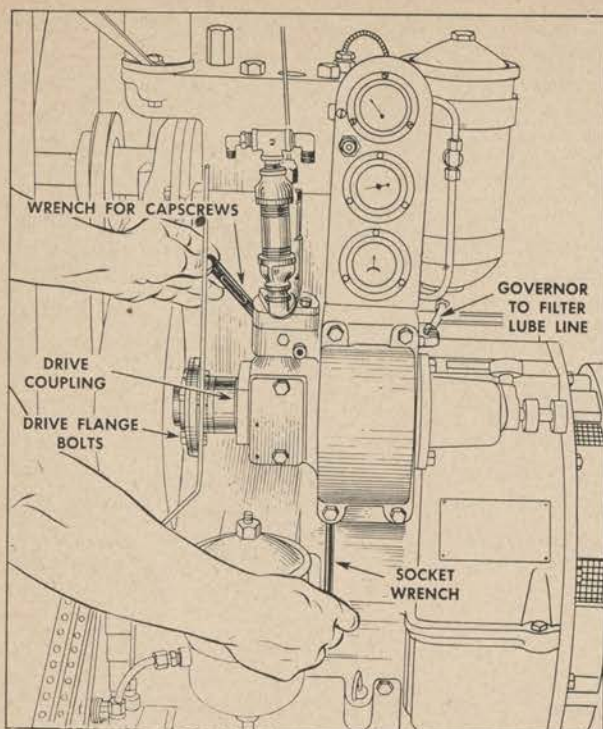

Figure 273. Removing fuel pump and governor assembly.
(e) *Removal of fuel pump and governor assembly.* To remove the fuel pump and governor assembly from the engine, first disconnect the suction and bleeder fuel lines from the tee fitting. (See fig. 273.) Then disconnect the suction line from the filter and the lubricating line from the governor to the lubricating oil filter. At the upper end of the governor housing, behind the instrument panel, take out the three capscrews holding the assembly to the cylinder block. Remove the three socket-head screws at the lower end of the governor housing. (See fig. 273.)
2. To adjust the timing, loosen slightly the three bolts in the driving flange between the flexible coupling and the gear housing (fig. 273), observing the setting present. Move the fuel pump either "advance" or "retard," a distance of one mark on the periphery of the flange. Tighten the three bolts and start the engine. Apply, first, full load full speed, and then no-load full speed, noting carefully any difference in the density of the exhaust. If no improvement is evident, or if the exhaust is heavier, move the fuel pump in a direction opposite that previously moved, a distance of two marks. Repeat engine operation. Moving the fuel pump one mark at a time, first in one direction and then in the opposite, will indicate the position of correct setting.